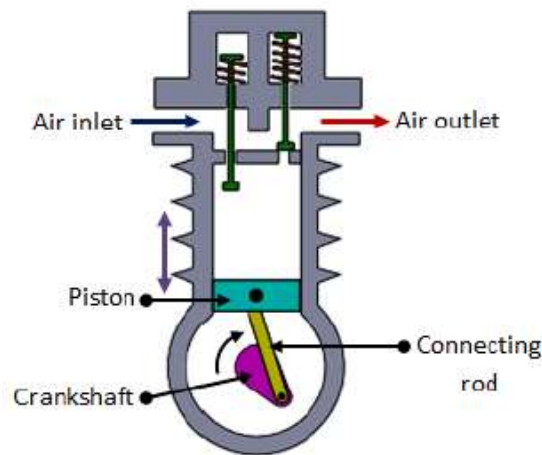

Fig.4.1 Single Cylinder Compressor
- ▶ A connecting rod transforms the rotary motion of the crankshaft into the reciprocating motion of piston in the cylinder. The schematic diagram of a single cylinder compressor is *Fig.4.1*.